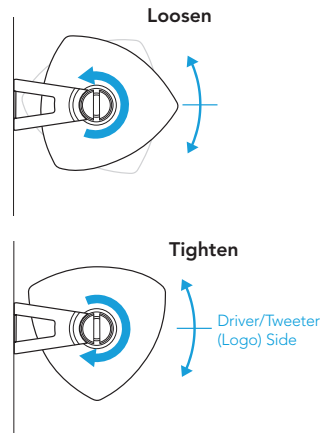

Figure 6
13. Once the speaker is mounted, the bracket locking knobs can be loosened to "aim" the speaker and then hand-tightened to keep the speaker angled correctly (see Figure 6).